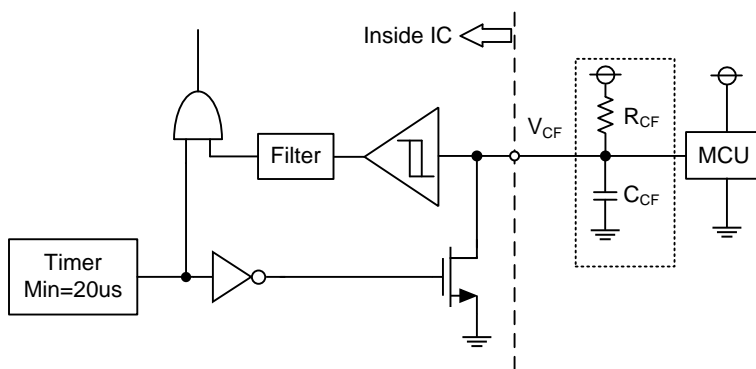

Figure 4. V_{CF} Output Circuit
- (1) If the control GND is connected with the power GND by common broad pattern, it may cause malfunction by power GND fluctuation. It is recommended to connect the control GND and power GND at a single point (N1), near the terminal of the shunt resistor.
- (2) There are two COM pins in the IPM but it is recommended to only use the (15) COM pin to minimize SC detection noise.
- (3) A zener diode D1 (24V/1W) is recommended between each pair of control supply pins to prevent surge destruction.
- (4) Prevention of surge destruction can further be improved by placing the bus capacitor as close to pin P and N1 as possible. Generally a 0.1-0.22 μ F snubber capacitor C3 between the P-N1 terminals is recommended.
- (5) Selection of the R1*C4 filter components for short-circuit protection is recommended to have tight tolerance, and is temperature-compensated type. The R1*C4 time constant should be set such that SC current is shut down within 2 μ s; (typically 1.5-2 μ s). R1 and C4 should be placed as close as possible to the C_{SC} pin. SC interrupting time may vary with layout patterns and components selection, therefore thorough evaluation in the system is necessary.
- (6) NTC signal line should be pull up to the positive side of the 5V/3.3V logic power supply with a proper resistor R2.
- (7) To prevent malfunction, traces A, B, and C should be as short as possible.
- (8) It is recommended that all capacitors are mounted as close to the IPM as possible. (C1: electrolytic type with good temperature and frequency characteristics. C2: ceramic type with 0.1-2 μ F, good temperature, frequency and DC bias characteristics.)
- (9) Input drives are active-high. There is a minimum 3.5k Ω pull-down resistor in the input circuit of IC. To prevent malfunction, the layout to each input should be as short as possible. When using RC coupling circuit, make sure the input signal levels meet the required turn-on and turn-off threshold voltages.
- (10) V_{CF} output is open drain type. It should be pulled up to MCU or control power supply (max= 5 \pm 0.5V), limiting the current (I_{CF}) to no more than 1mA. I_{CF} is estimated roughly by the formula of control power supply voltage divided by the pull-up resistor R3. For example, if control supply is 5V, a 10k Ω (over 5k Ω) pull-up resistor R3 is recommended.
- (11) If only a pull-up resistor R3 of 10k Ω connected to V_{CF} pin, the fault output pulse width is fixed at minimum 20 μ s. If a capacitor C6 is connected with a pull-up resistor R3, the fault output pulse width can be controlled according to the resistor value and capacitor value. For the design guide, please refer to the Figure 4.
- (12) Direct drive of the IPM from the MCU is possible without having to use opto-coupler or isolation transformer.
- (13) The IPM may malfunction and erroneous operations may occur if high frequency noise is superimposed to the supply line. To avoid such problems, line ripple voltage is recommended to have $dV/dt \leq \pm 1V/\mu s$, and $V_{ripple} \leq 2V_{p-p}$.
- (14) It is not recommended to use the IPM to drive the same load in parallel with another IPM or inverter types.